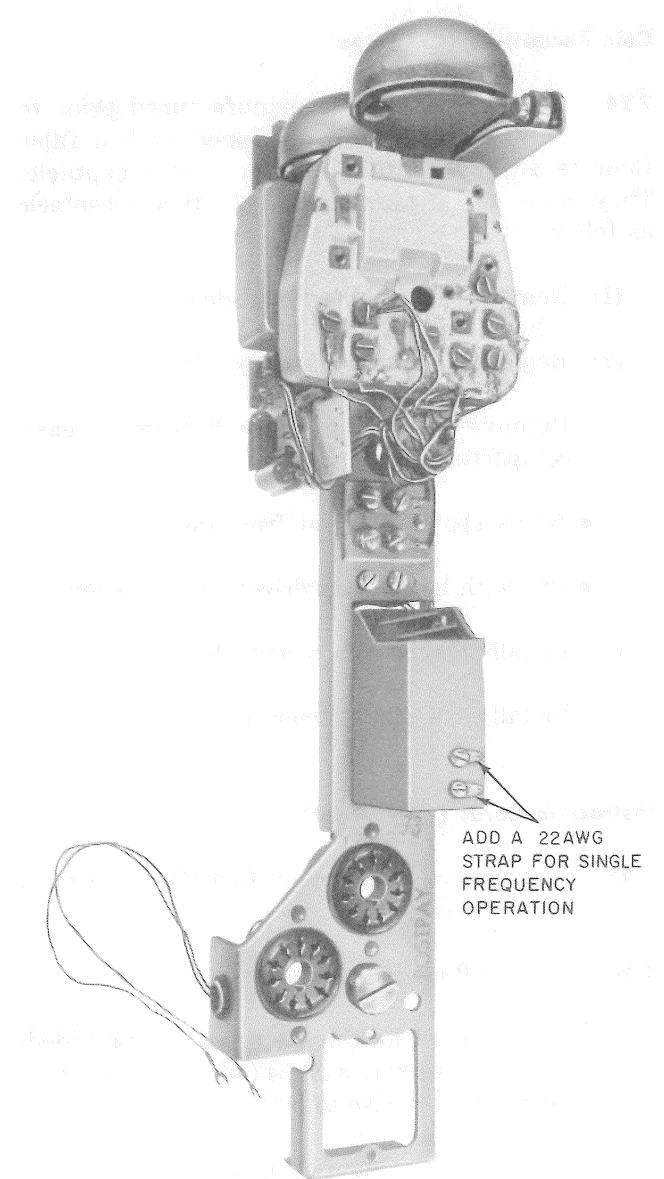

Fig. 22—30B Coin Chassis—For Use in 1E-Type Sets
2.20 The 30A coin chassis (with SF coin tone oscillator) used in 1E-type coin telephone sets is being replaced by a 30B coin chassis (Fig. 22) which has a DF oscillator.